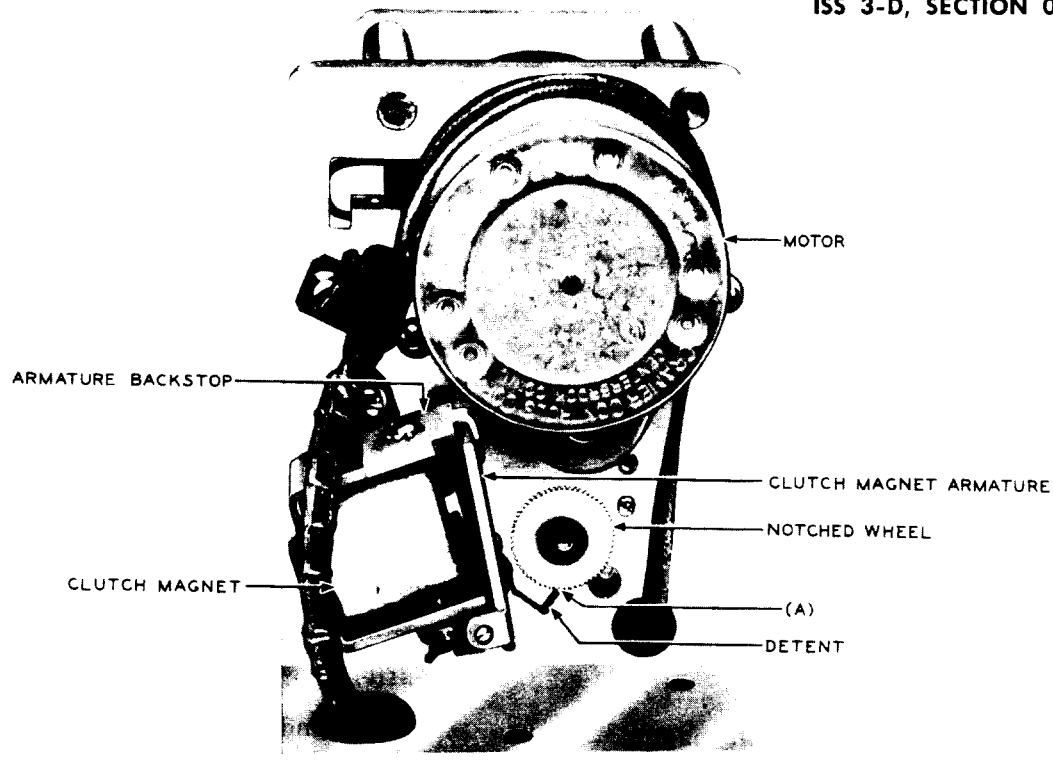

Fig. 3 - KS-16329 Timer — Bottom View (L1 timer shown)
2.08 Position of Clutch Magnet Detent: Fig. 3(A)